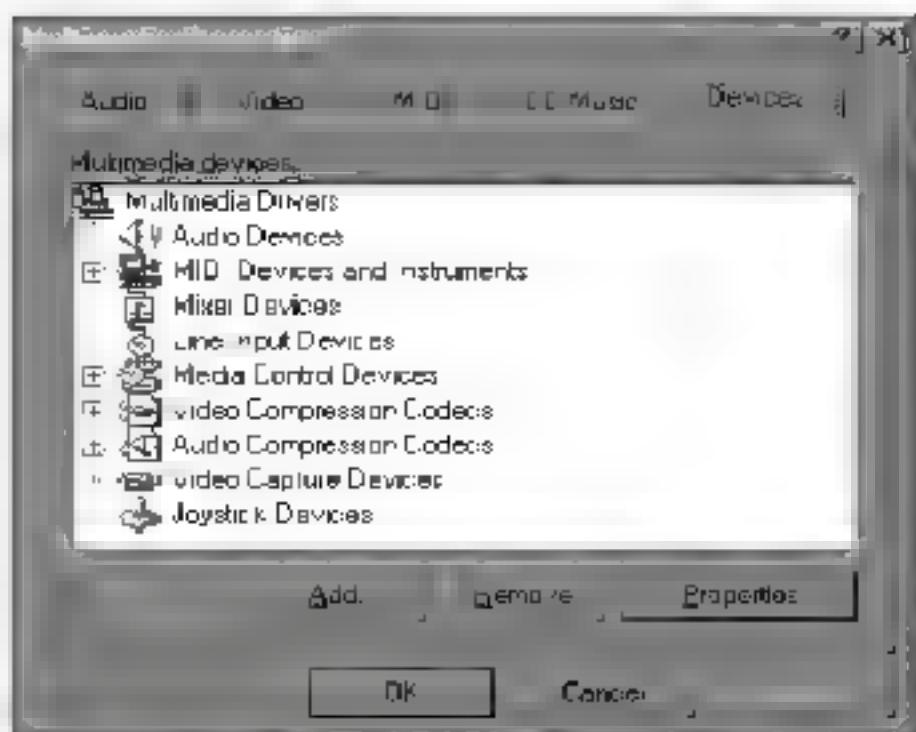

Figure 2.1 The Multimedia Properties window
5. The Multimedia Properties window now appears as shown in Figure 2-1 below. Click on the Devices tab.